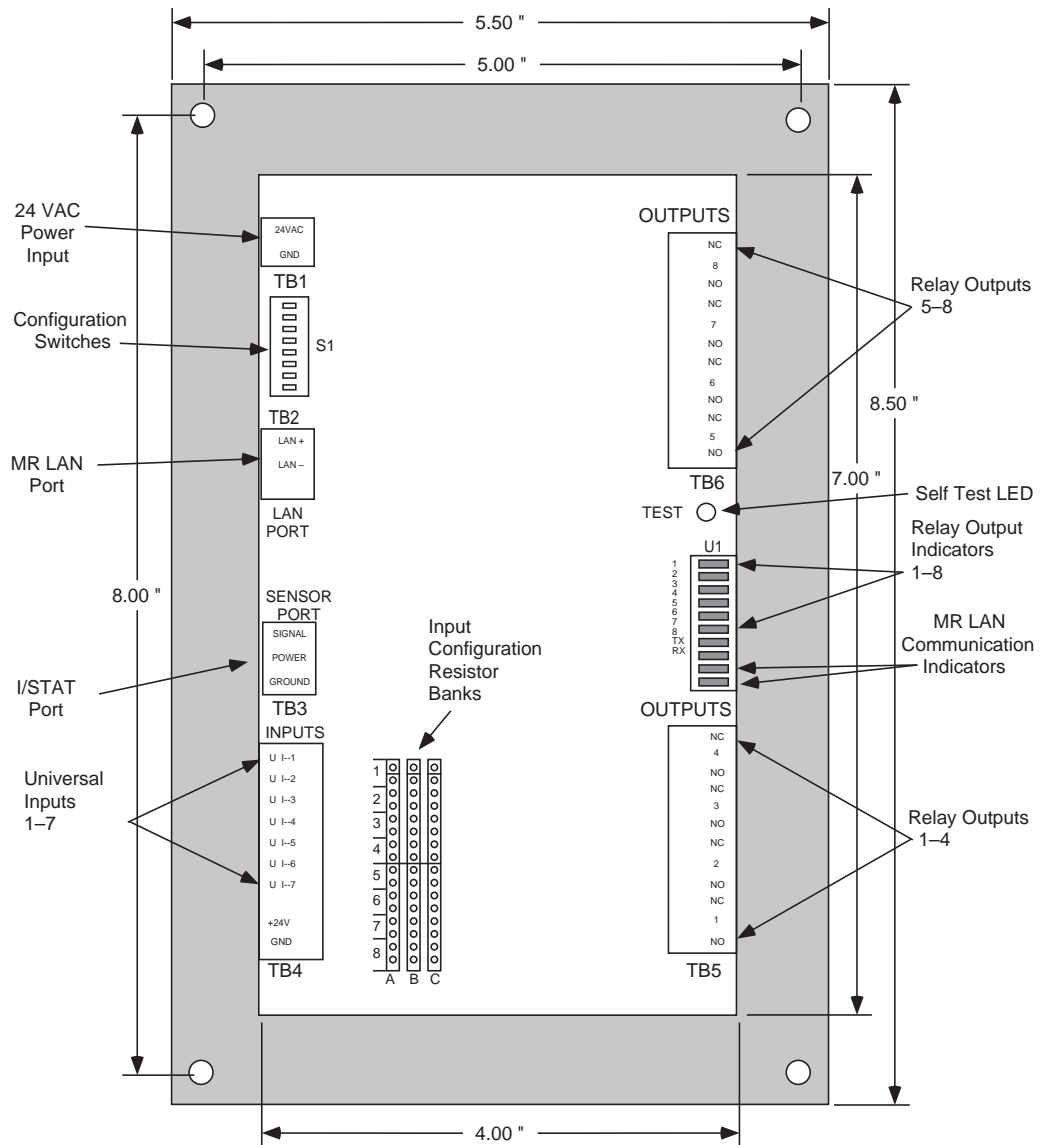

Figure 2. MR88R Controller Board
The MR88R has eight relay outputs, each providing a single form-C relay contact with three screw terminations. The outputs are arranged in groups of four on TB5 and TB6. The ten-position terminal block, TB4, contains the universal input terminals 1 through 7, labeled UI-1 through UI-7 (see Figure 2). These inputs are configured using the plug-in resistor banks.
The MR88R has eight relay outputs, four each on TB5 and TB6. These outputs are single form-C relay contacts with three screw terminations. Each contact may be wired to the output device as Normally Open (NO) or Normally Closed (NC). The center terminal of each group (the terminal output number) is the common terminal (see Figure 2 on page 11). Contacts are rated at 24 VAC/DC @ 0.5 A maximum each output.